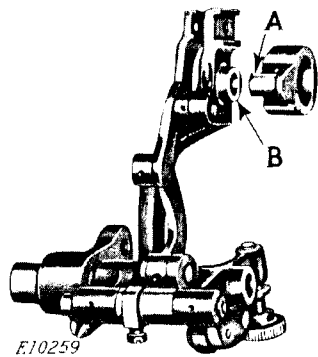

FIG. 35
Before installing the feed rock shaft which is assembled with other feed parts, as shown in Fig. 35, place the spur (A) of the feed lifting eccentric into the hole of the feed bar at (B).
Apply the oil to the oil cup (F) in the bed of the machine until the reservoir is full. Also fill the oil cup (C) at the top of the machine and saturate the wicks, through the oil hole at B, which lubricate the needle bar. Oil the needle bar link connection (J) and the knife lever and presser lever bearings at the back of the machine. These oil holes are shown in Figs. 35, 37 and 38.